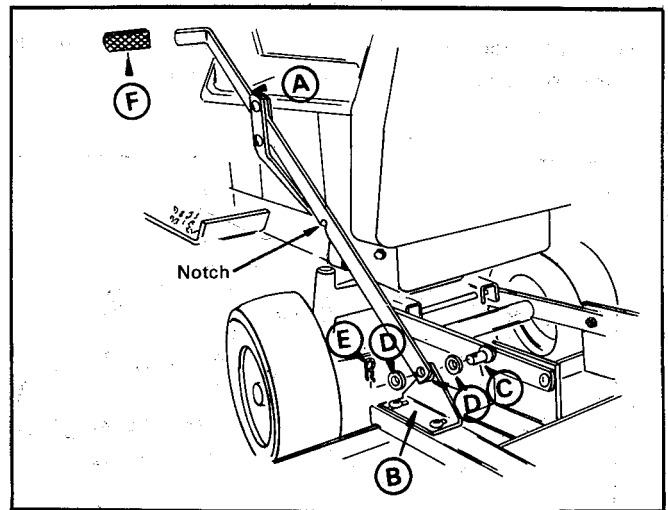

FIGURE 11.
FIG. 11. Slide the lift handle (A) through the slot in the lift handle support bracket with locking notch downward. Attach the lift handle to lift bracket (B) using the 5/16" pin (C), three plain washers (D), and a hair pin collar (E). Adjust lift bracket (B), if necessary, to assure lift handle will not bind in support bracket. Slide handle grip (F) over handle.